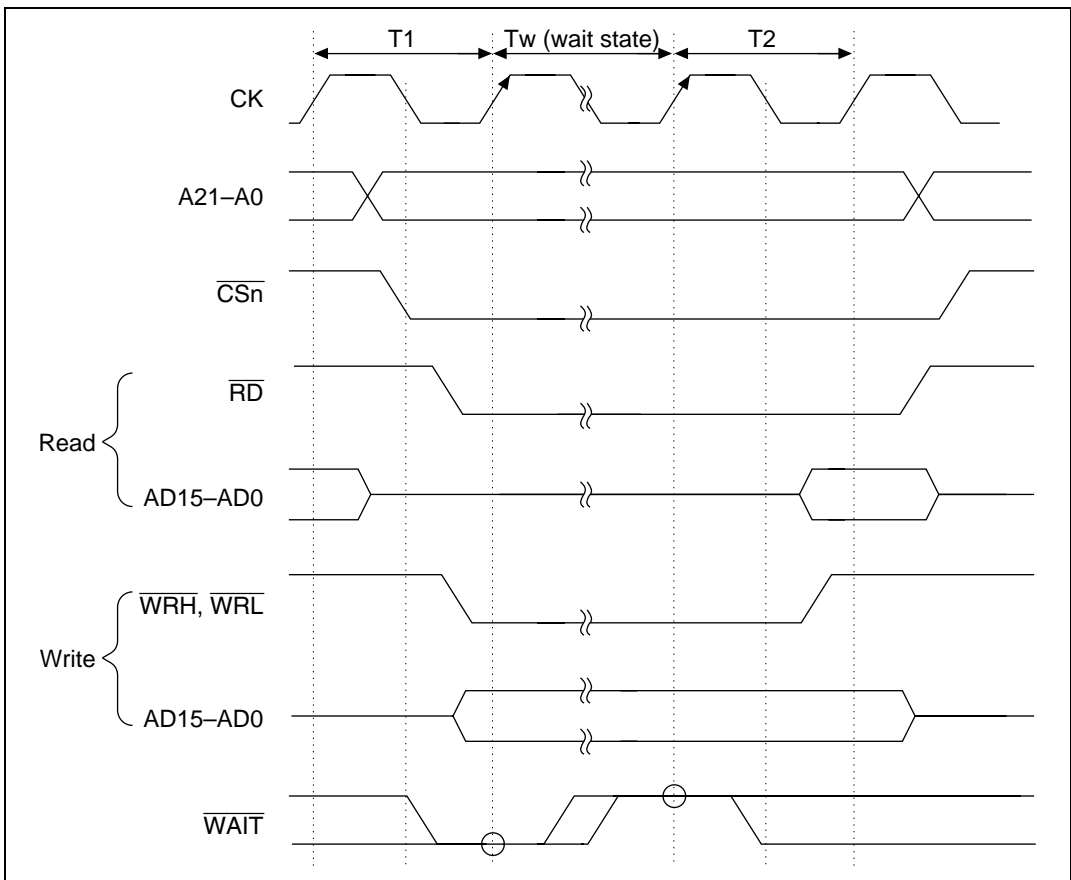

Figure 8.13 Wait State Timing for External Memory Space Access (2 States Plus Wait States from $\overline{\text{WAIT}}$ Signal)
For the CPU read cycle, DMAC dual mode read cycle, and DMAC single mode read/write cycle, the access cycle is completed in 1 state when the corresponding bits of WCR1 and WCR2 for areas 1, 3–5, and 7 are cleared to 0 and the $\overline{\text{WAIT}}$ pin input signal is not sampled. When the bits are set to 1, the $\overline{\text{WAIT}}$ signal is sampled and the number of states is 2 plus the number of wait states set by the $\overline{\text{WAIT}}$ signal. The $\overline{\text{WAIT}}$ signal is sampled at the rise of the system clock (CK) directly preceding the second state of the bus cycle and the wait states are inserted as long as the level is low. When a high level is detected, it shifts to the second state (final state). Figure 8.13 shows the wait state timing when accessing the external memory spaces of areas 1, 3, 4, 5, and 7.
For CPU write cycles and DMAC dual mode write cycles to external memory space, the number of states and wait state insertion cannot be controlled by WCR1. In areas 1, 3, 4, 5, and 7, the $\overline{\text{WAIT}}$ signal is sampled and the number of states is 2 plus the number of wait states set by the $\overline{\text{WAIT}}$ signal (figure 8.13). In areas 0, 2 and 6, the number of states is 1 state plus the number of long wait states plus the number of wait states set by the $\overline{\text{WAIT}}$ signal (figure 8.14). Do not write 0 in bits 7–2 and 0 of WCR1; only write 1. When area 1 is being used as external memory space, do not write 0 in bit 1 (WW1); always write 1.